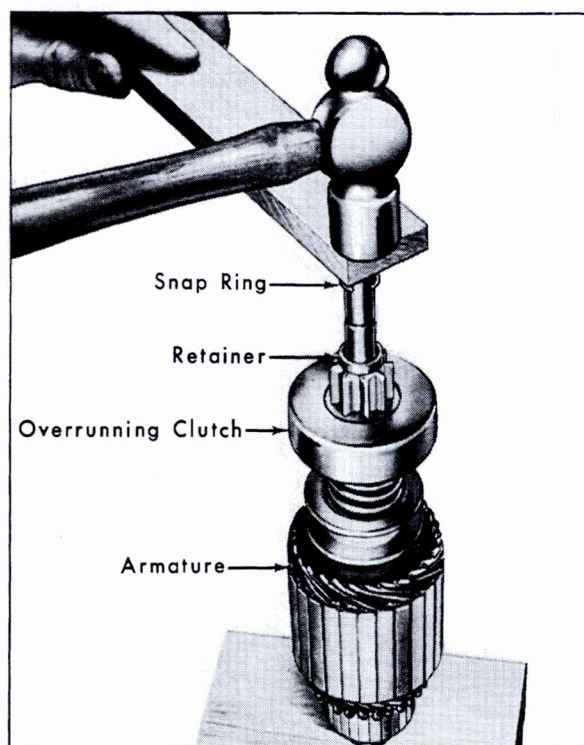

Fig. 6-18 Installing Snap Ring on Shaft
d. Stand armature on end of a wood surface with commutator down. Position snap ring on upper end of shaft and hole in place with either a piece of wood or a 7/16" socket. Tap socket or block with hammer to force snap ring on end of shaft, Fig. 6-18. Slide snap ring down to the second groove.